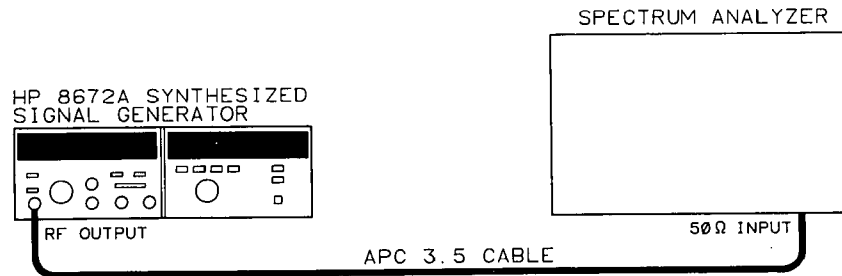

Figure 4-9. Harmonics, Subharmonics, and Multiples Test Setup
1. Connect the Signal Generator RF OUTPUT to the input of the spectrum analyzer as shown in Figure 4-9.